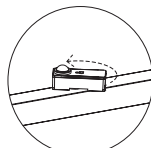
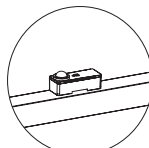

Fig. 3
Fig. 4
3. Rotate the sensor and align its edge to receptacle to ensure that it's installed securely. (Fig. 3 & Fig. 4)